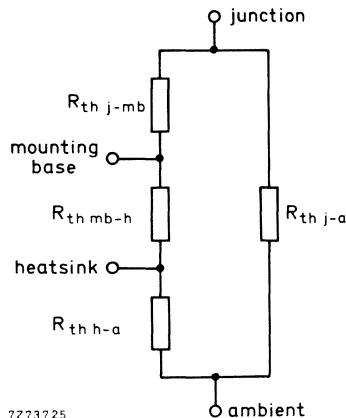

Fig. 3.
- a. The various components of junction temperature rise above ambient are illustrated in Fig. 3.